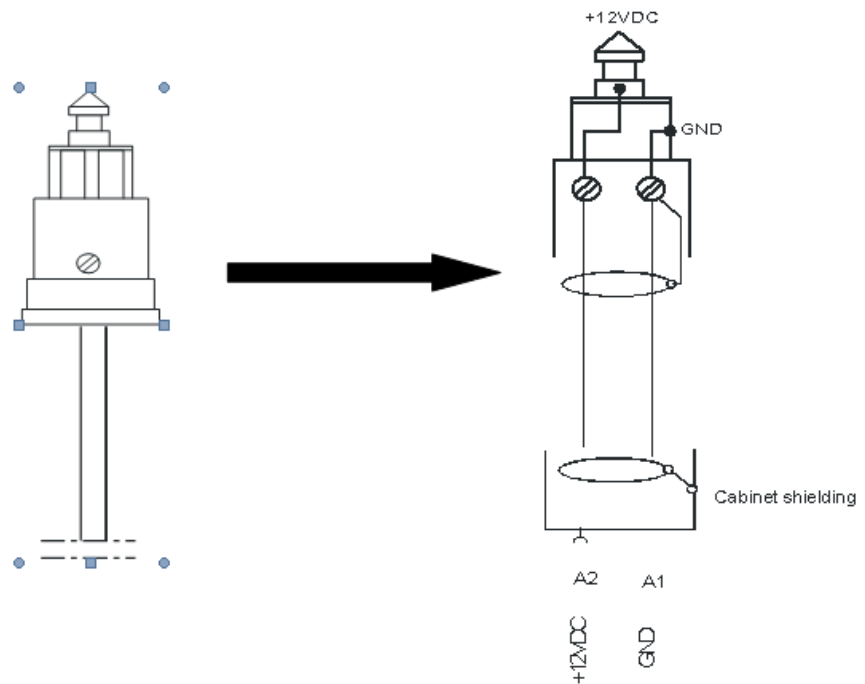

Figure 2-4: Supplied power cable with cigarette lighter adapter
- ▶ To use a proprietary DC supply with the R&S TSME power cable, demount the cigarette lighter adapter from the supplied power cable and connect the open ends of the cable to the proprietary power supply. Be sure to respect the correct polarity (see Figure 2-4).